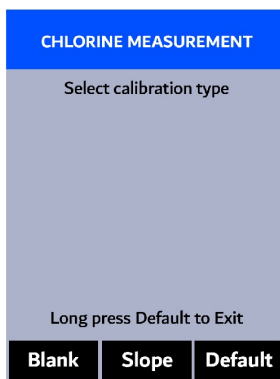

Figure 35.
4. Press **OK** to launch the **CHLORINE CALIBRATION** screen (Figure 35).